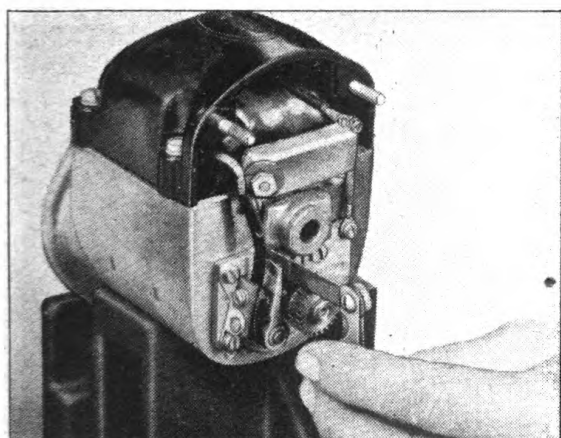

Fig. 47. Testing Opening of Contact Points
After long service, breaker points sometimes require adjusting Fig. 47. This operation is fully described on page 73 under Servicing at Base.
3. Make certain that the cam opens the breaker arm between .015 inch and .020 inch using the contact point opening gauge. Fig. 47.